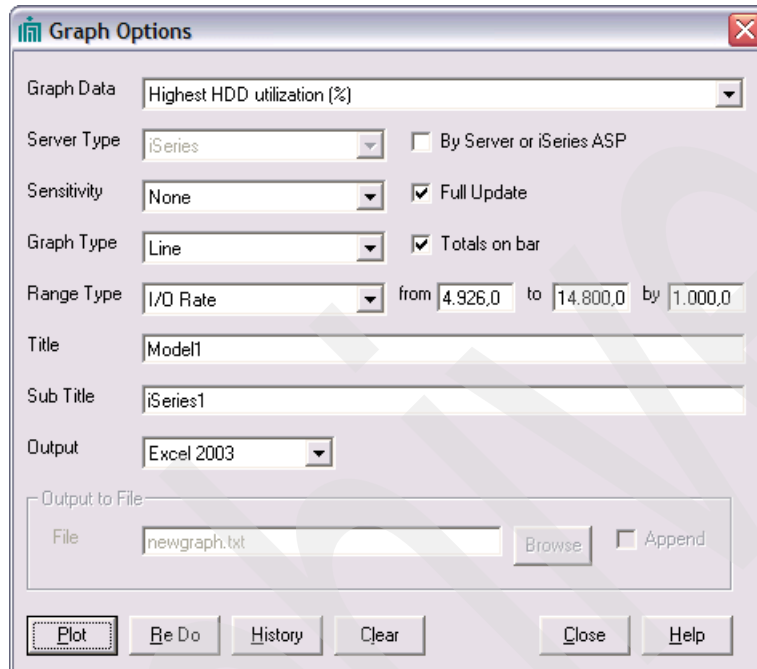

Figure 4-47 Graph options for HDD utilization
- a. In the Disk Subsystem - iSeries1 window, on the iSeries Workload tab, click **Graph**. In the Graph Options window (Figure 4-47):